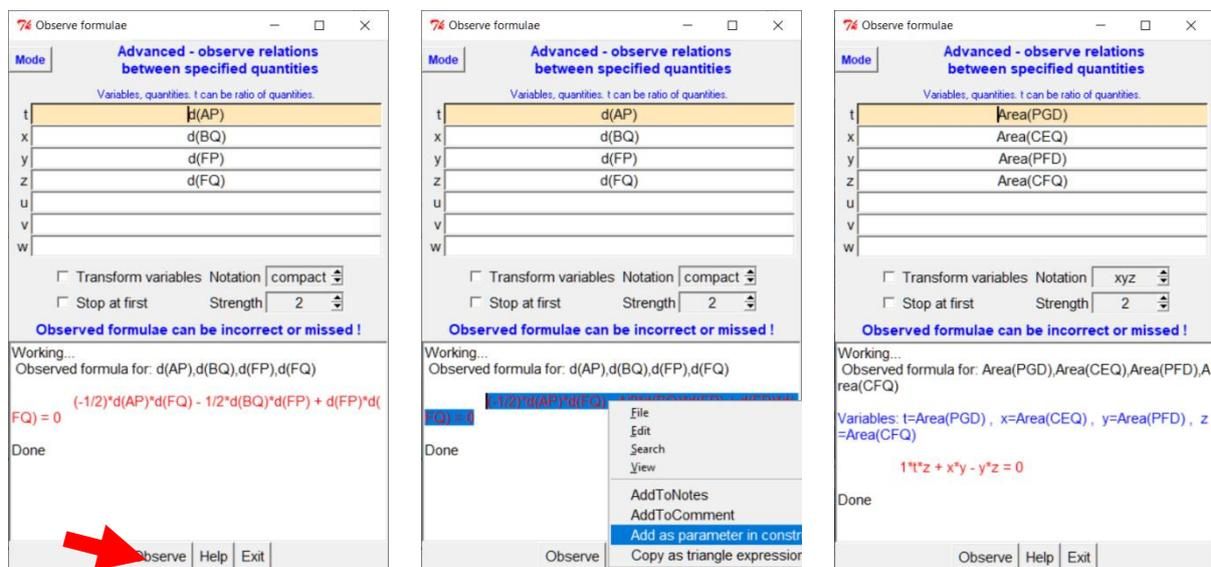

Figure 35
The first entry of the form that appears (Figure 35) is lightly coloured to emphasise its special role:
2. Apply the command *Command/Observe formulae/Advanced*. A form appears. In the entries t, x, ... write the quantities to be considered. In our case we write d(AP) for the length of the segment AP and similarly for the other three segments. Then click on the **Observe** button (Figure 35, left).